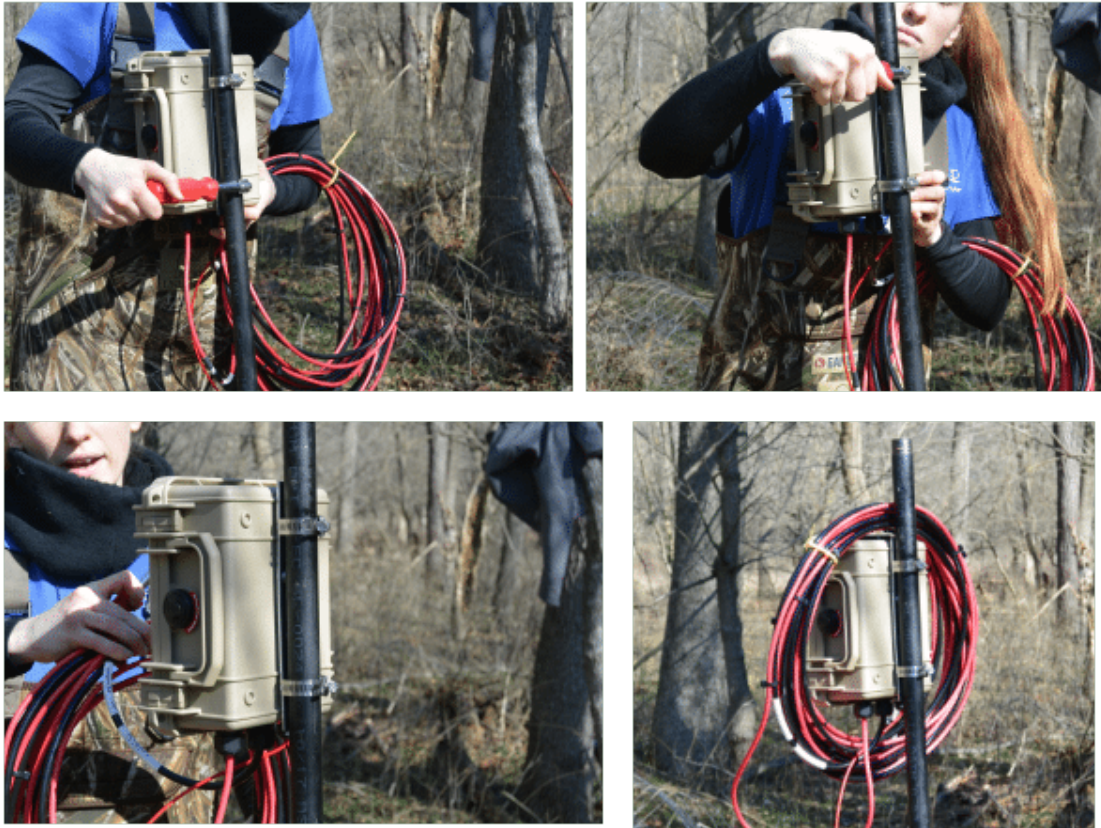

Figure 10: Attach logger box to pole with small hose clamps.
10. Attach the logger box to the pole by 1) sliding two stainless steel hose clamps (7/8" to 1 ½" size) through the gap between the back of the logger box and the mending plate, 2) tighten the hose clamps around the pole (Figure 10).